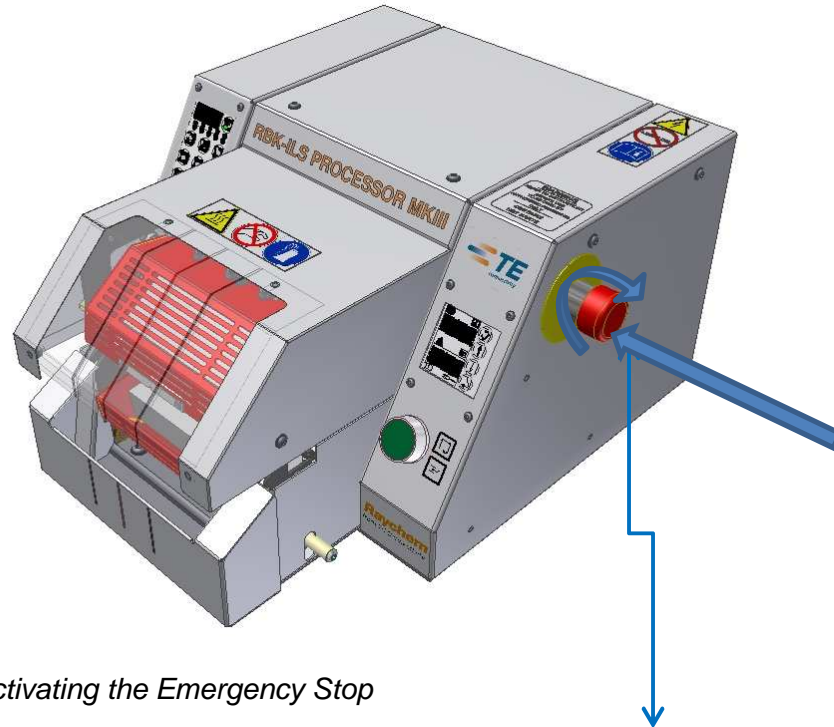

Fig. 3-2: Activating the Emergency Stop
1. To Power down the processor in an emergency, push the **EMERGENCY STOP** button (Fig 3.2.).